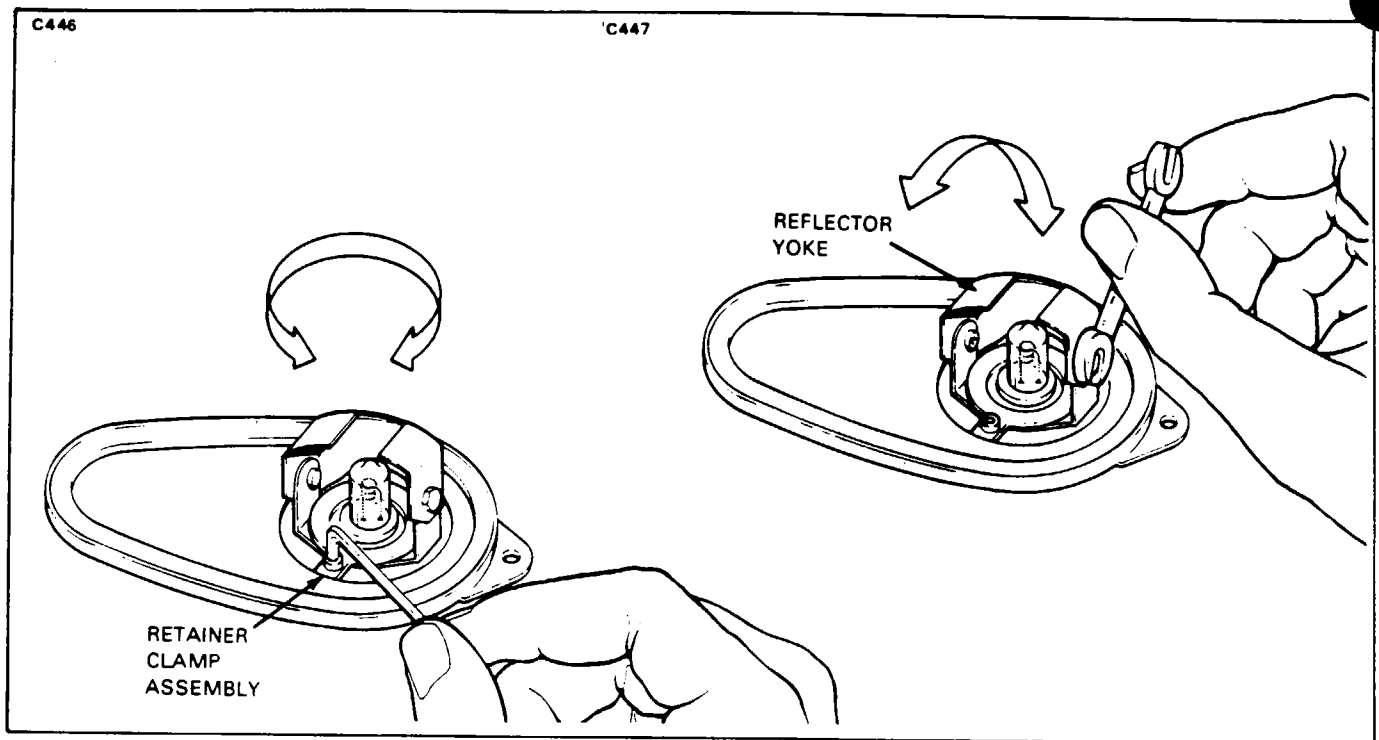

Figure 33-1. Logo Light Assembly Adjustments
2. To install the landing light assembly, position the assembly against the strut housing with the bottom of the mounting bracket 5.63 inches up from the bottom of the housing. (Refer to Figure 33-1.) Align the bracket longitudinally and secure with clamps. The light beam angle may be adjusted by the adjustment screws at the side of the bracket and tilting as desired.
LOGO LIGHTS ADJUSTMENT. (Refer to Figure 33-1.)